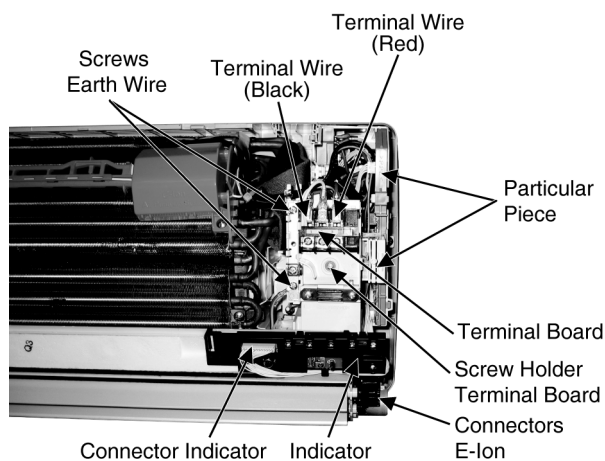

Fig. 3
- Release the 2 screws for the earth wire. (Fig. 3)
- Pull out 2 terminal wires (Red and Black) from the Terminal Board. (Fig. 3)
- Detach the connector Indicator and release the Indicator. (Fig. 3)
- Release the 2 Particular Piece. (Fig. 3)
- Release the screw Holder Terminal Board. (Fig. 3)
- Release the 2 Connector E-Ion. (Fig. 3)